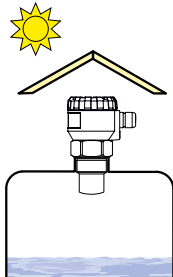

Fig. 11: Solar radiation shielding cover
- The level meter must not be installed in places with direct **solar radiation** and must be protected against weather effects. If the installation in places with direct solar radiation is inevitable, it is necessary to mount a **shielding cover** above the level meter (Fig. 11).